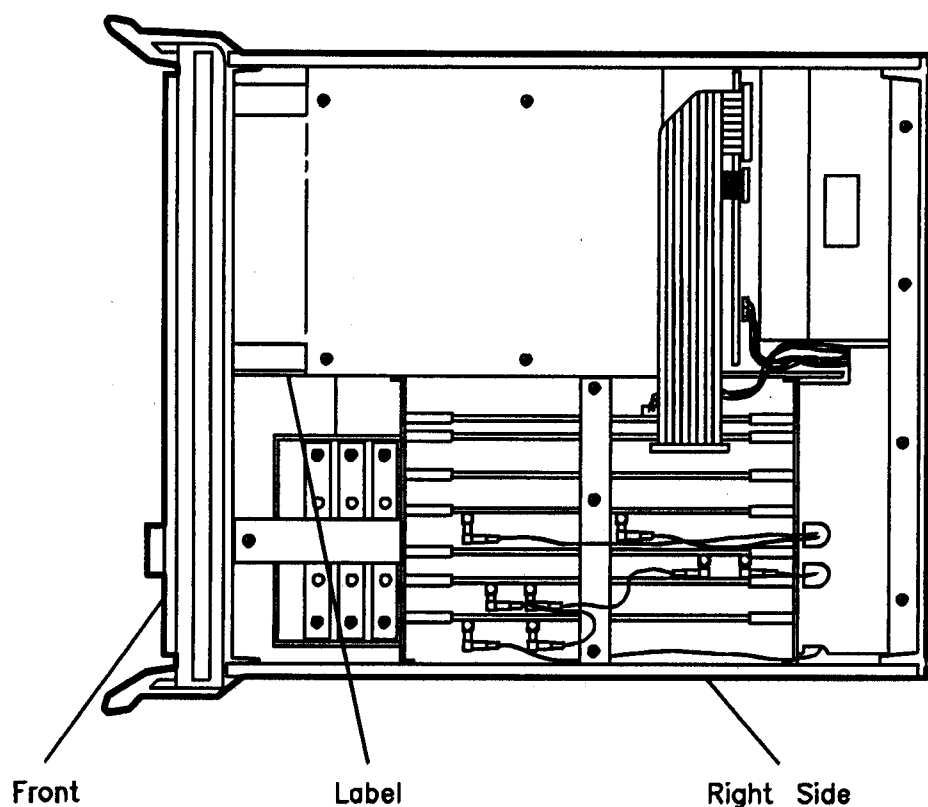

Figure 5-4. Location of Keyword Label
1. Remove the top cover of the instrument. Check the A9 CC jumper position (it must be in the ALTER position). Note the keyword on the keyword label (see Figure 5-4).